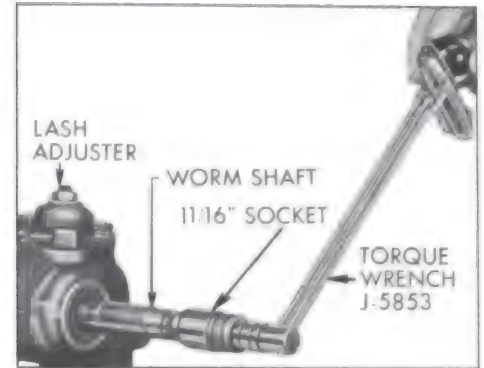

Figure 8-5—Checking Adjustments on Bench
1. Attach Torque Wrench J-5853 to worm shaft and turn shaft to extreme right or left position. See Figure 8-5.